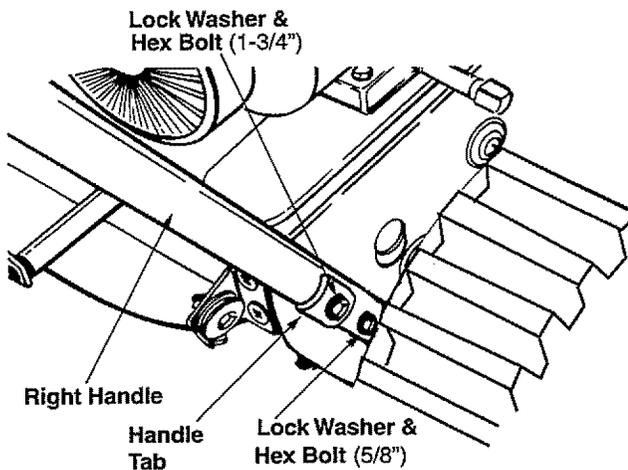

Figure 2
thrower using 5/16 x 3/4" hex bolt and lock washer from the hardware pack (group A on page 6). Do not tighten at this time. See Figure 2.
- Place a handle tab, included in the hardware pack (group A on Page 6), over the upper hole in handle so that the contour of the handle tab matches that of the handle. See Figure 2.